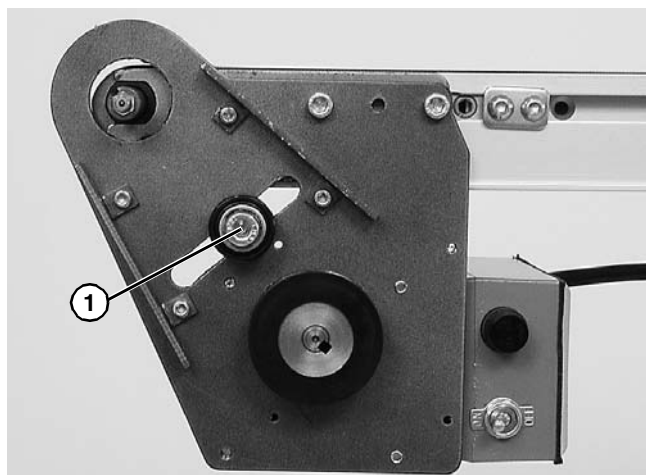

Figure 13
8. Remove cam bearing and spacer (Figure 13, item 1).